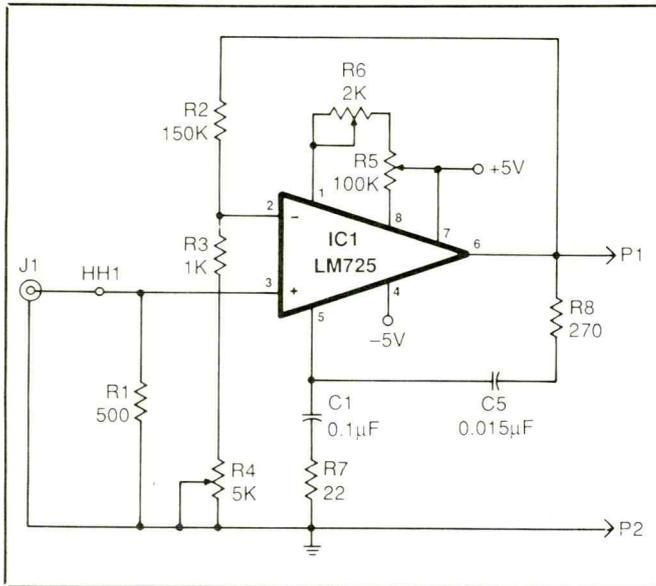

Fig. 1. Schematic diagram of basic circuitry for silicon solar-cell version of project.
• **Silicon Solar-Cell Module.** Operation of this module, the basic circuit for which is shown schematically in Fig. 1, relies upon photovoltaic sensor *PCI*, whose current output is almost linearly related to the intensity